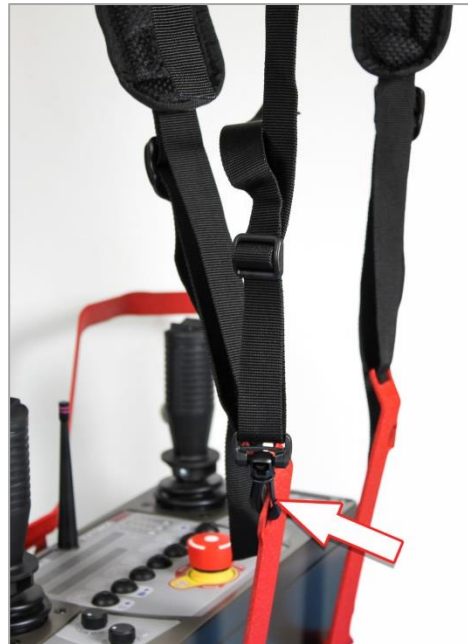

Figure 15: Attach right clip to left attachment point.
2. Cross the right back strap behind the harness and clip it to the left side attachment point (see Figure 15).